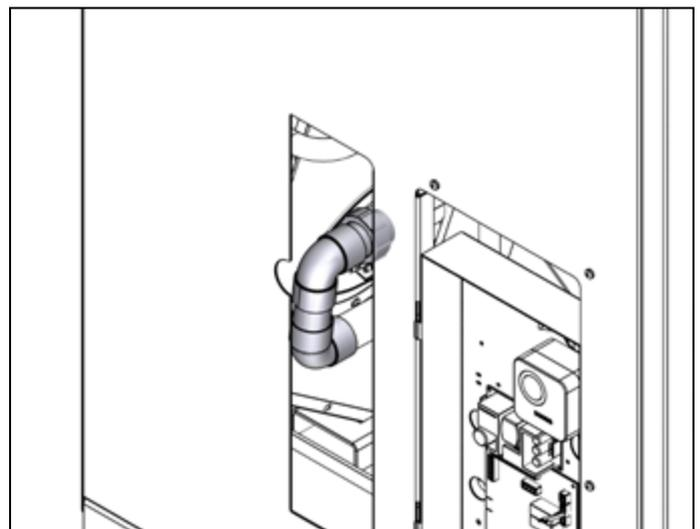

Figure 5-3: Condensate pipe to fit trap on right side of boiler
- Using the required lengths of 32mm (1¼") waste pipe and two 90°elbows, connect a pipe from the connector on the boiler condensate outlet to pass through the hole in the right hand boiler side panel. Refer to Figure 5-3.